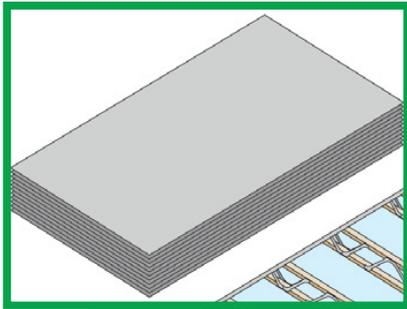
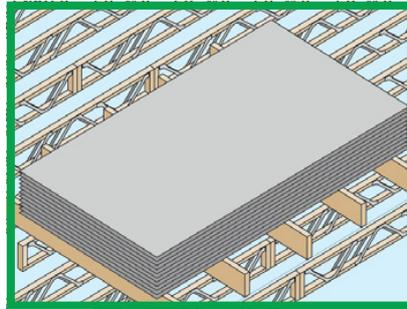

Fig 1
Fig 2
**14** The maximum load of sheet materials temporary stored on the Posi-Joists is 250kg/m2 and should not be greater than 300mm deep. This equates to 16 sheets of 18mm chipboard, 13 sheets of 22mm chipboard or 20 sheets of 15mm plasterboard. Where the sheets are stacked by hand they should span lengthways across the joists, (Fig 1), when lifted mechanically they should be seated on 5 bearers the width of which are 600mm longer than the width of the board. (Figs 2 & 3).